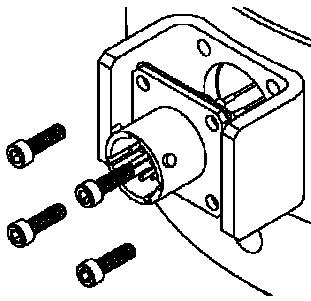

Figure 9 - Attach the Connector Protector (54823-02) using #4-40 x 3/8" Socket Head Cap Screws
5. Attach the connector protector (54823-02) to the load cell with the #4-40 x 3/8" socket head cap screws using a 3/32" hex wrench as shown in Figures 9 and 10.